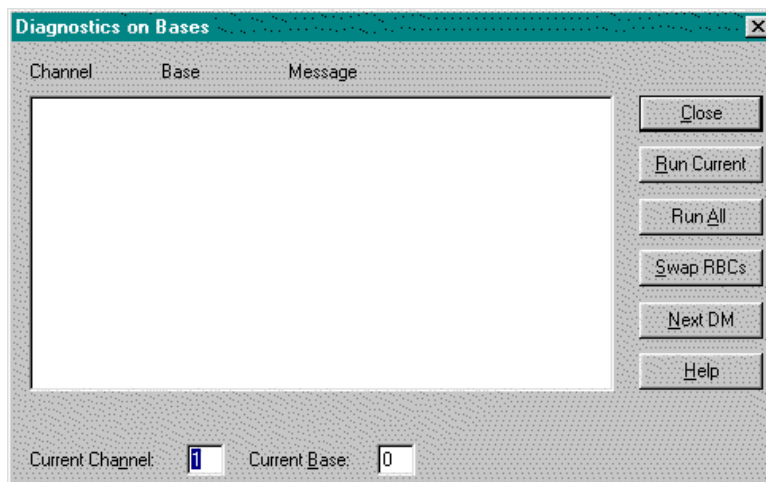

Figure 6.12d
2. Click Single Scan Setup on the Diagnostics menu (Alt+D, I). The Single Scan Setup menu dialog box is displayed (Figure 6.12dd). If your programmable controller supports the Single Scan pop-up task box for more than one task, you can select which tasks to execute during the single scan.
Figure 6.12dd
2. The Diagnostics on Base dialog box is displayed in the format shown in Figure 6.12d.